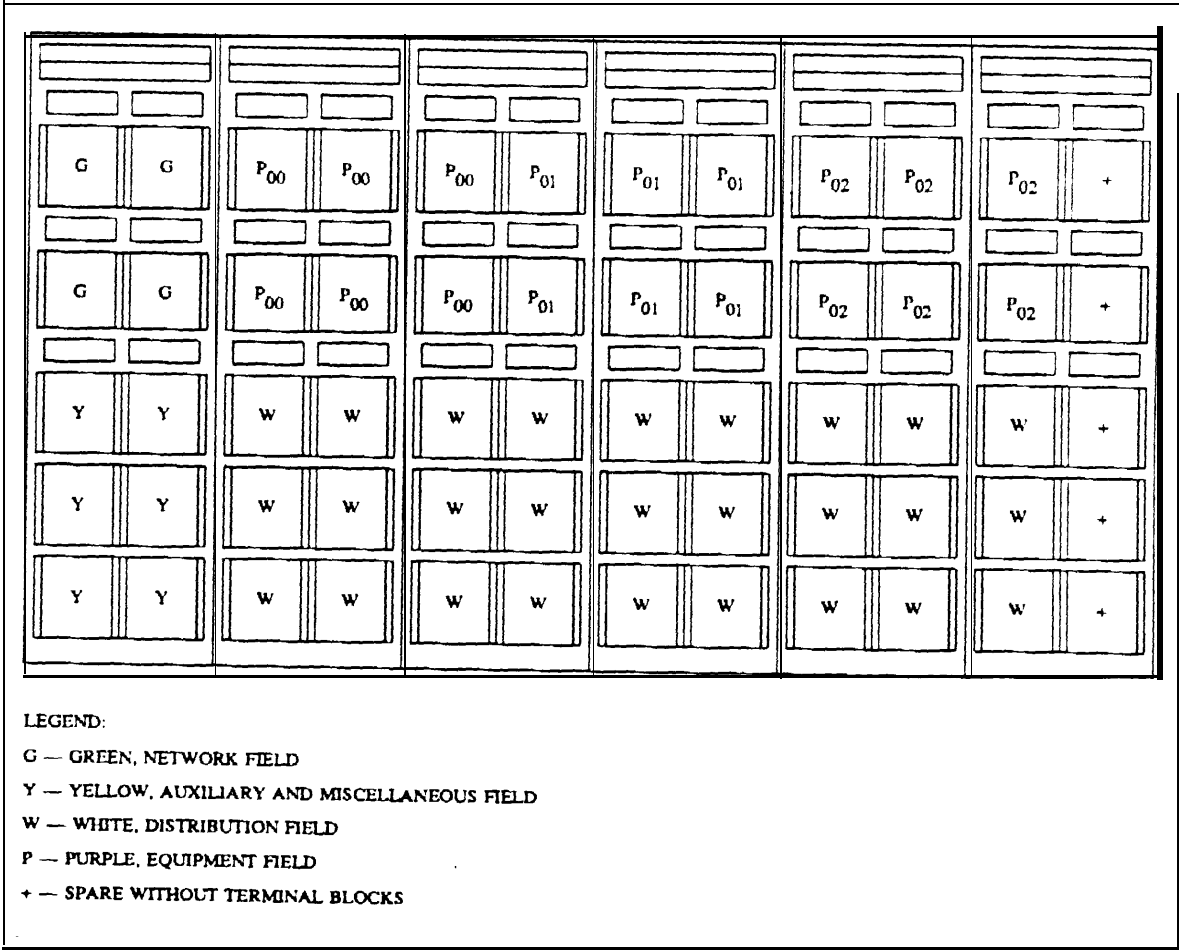

Figure 7-8. Combined Trunk and Line Ports
*Port Fields and Short Jumper Lengths.* For most installations, combine the line and trunk fields to accommodate the CPC, as shown in figure 7-8, *Combined Trunk and Line Ports*.